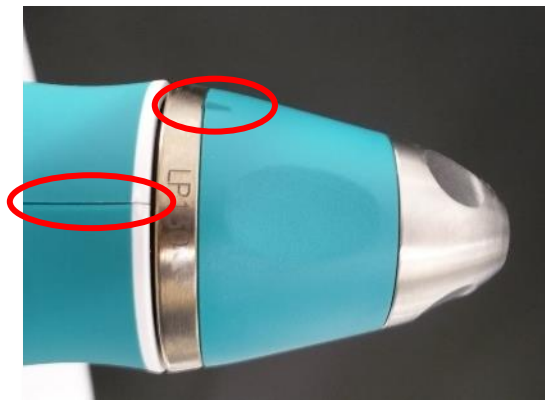

Figure 9. Lens Piece Locked
2. Insert the lens piece into the handpiece, and turn the lens piece clockwise until you feel the detent engage. This indicates that the lens piece is securely locked in place. Verify that the tab and seam are in the indicated positions shown in Figure 9.